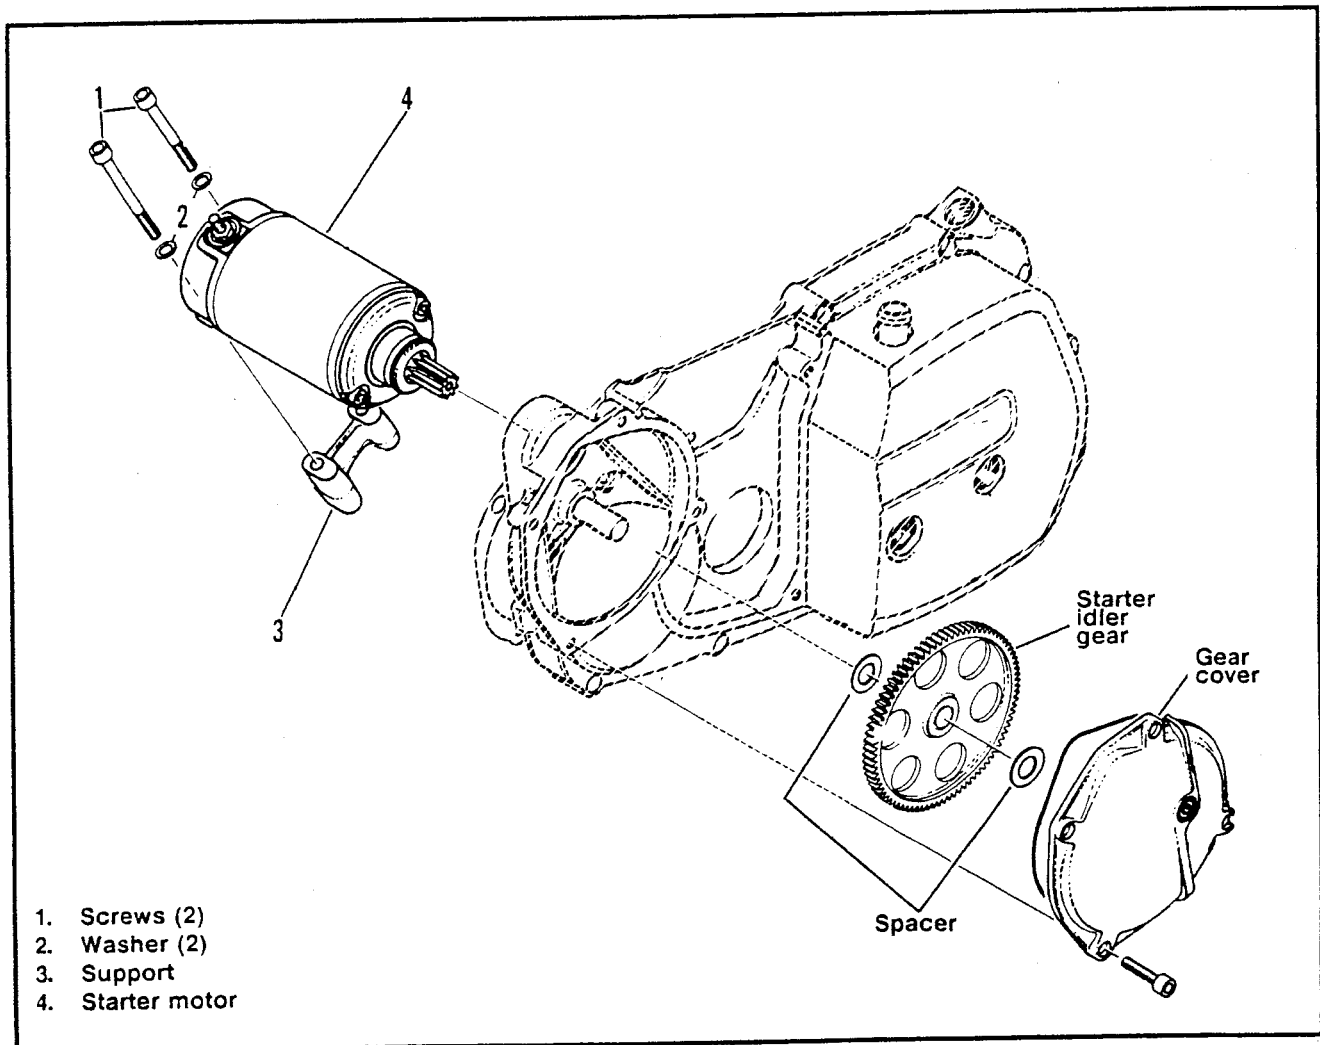

Figure 4-31. Electric starter
1. See Figure 4-31. Disconnect the electrical cable. Remove support screws (1), washers (2) and support (3). Remove starter motor (4).